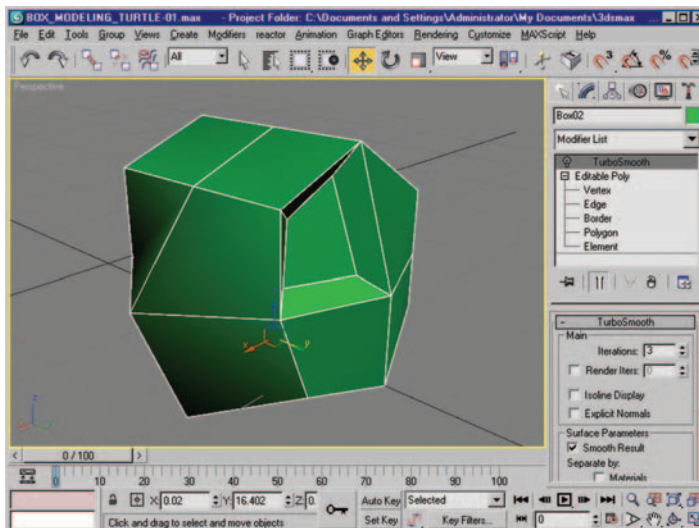

Figure 2.38 Our “box” mesh after beveling the two top/side polygons and manipulating various edges and verts.
4. We are also going to move around some verts and edges to begin shaping our box into the basic shape of the turtle's head. Figure 2.38 shows the box after the bevel to the two polygons and the manipulation of the edge and verts are performed. You can also add a TurboSmooth at any point during this exercise so you can toggle it on and off to see the result of your modeling changes on the final subdivided mesh.